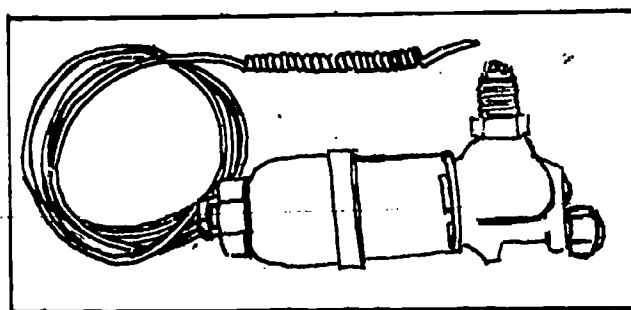

Fig 2-25. Thermostatic expansion valve.
- (2) Thermostatic expansion valve (fig 2-25). A thermostatic expansion valve (TEV) consists of a power element (complete with thermal bulb and power charge), capillary tube, and a bellows or diaphragm. The power element is mounted in the valve body which contains another bellows or diaphragm, a needle valve and seat, an adjusting spring and screw, and a filter screen in the valve's inlet port. Refrigerant flow is controlled by the difference between the pressure within the evaporator and the temperature of the thermal bulb. This pressure temperature difference is called the valve's superheat. The valve's power element controls the valve in such a way that the evaporator is kept almost full of refrigerant at all times and works as follows. When pressure in the evaporator builds up, a motor controlling sensing device (either a thermostat or pressure control) will start the compressor motor. At the same time,